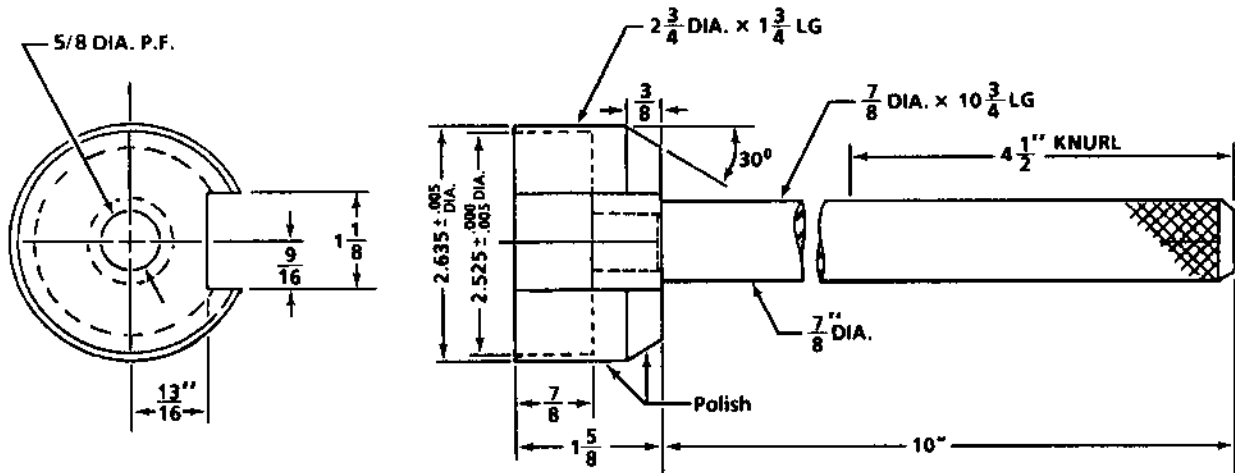

Figure 45 - Piston Assembly Tool
Using Tool L-75084-C (see Figure 45), compress the piston-retainer assembly against spring in housing bore. With snap ring pliers, secure the components in place with retaining ring (21).